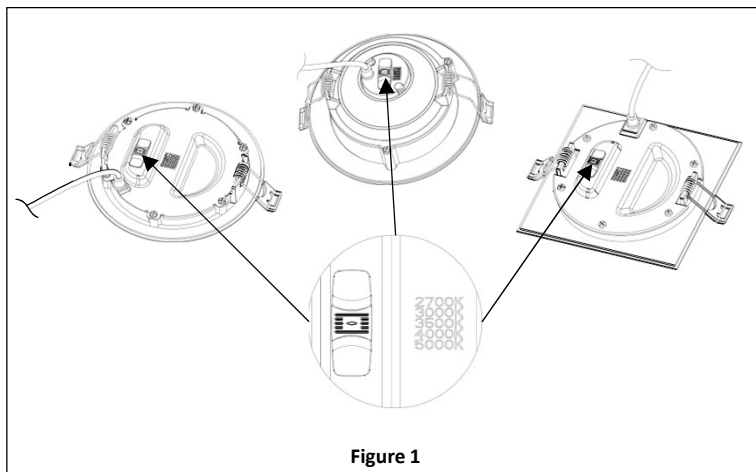

Figure 1
2. Select the desired Correlated Color Temperature (CCT) from 5 options using the switch located on the back of the light. **See Figure 1.**